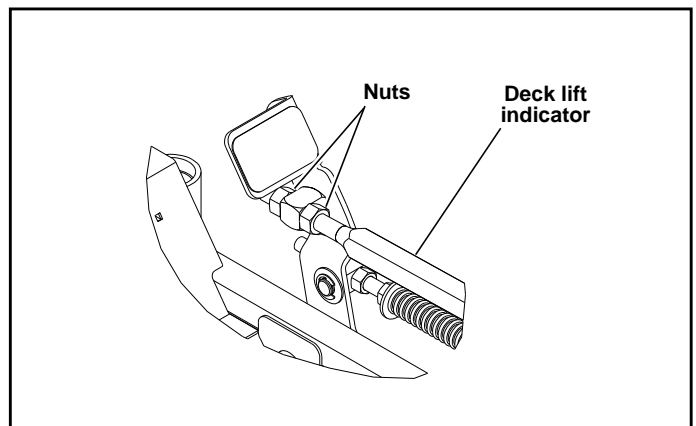
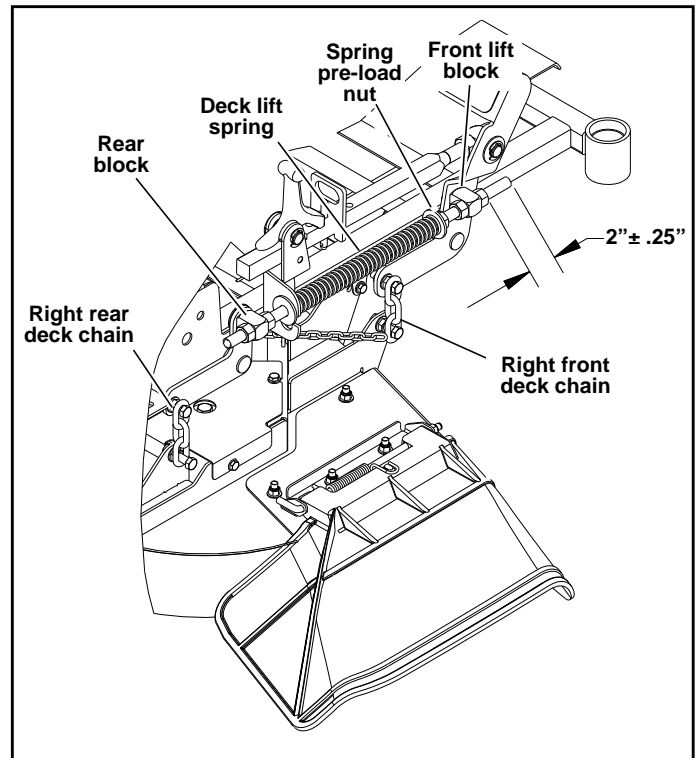

Figure 6-3
Figure 6-6
5. Loosen the front and rear nuts on the deck lift indicator so that the foot pedal is free. Figure 6-3
10. Set the amount of threads protruding on the deck lift spring rod from the front lift block at approximately  $2" \pm .25"$ . Jam both nuts against the front lift block. Figure 6-6
11. Turn the spring pre-load nut until it contacts the rear nut of the front lift block, reducing the amount of pre-load on the spring. Figure 6-6
12. Tighten the rear nut against the block on the deck lift indicator until the front chain is taut. Figure 6-6
or rearward when you shake the deck lift indicator. Figure 6-3
13. Finger-tighten the front nut against the block on the deck lift indicator. Figure 6-3
15. Adjust the rear nut on the right rear lift block until the right rear chain is taut and the deck is firmly on the installation block. Figure 6-6
16. Screw the front nut finger-tight against the rear block on the deck lift spring. Tighten these two nuts. Figure 6-6
17. Check the right front deck chain to be sure it is taut. If there is slack in the chain, adjust the rear nut forward against the square block on the deck lift indicator to gain tension. Figure 6-6
19. Tighten both the front and rear nuts on the deck lift indicator. (Figure 6-3) Check to make sure that all deck linkage hardware on the right side of the machine is tight. Figure 6-6